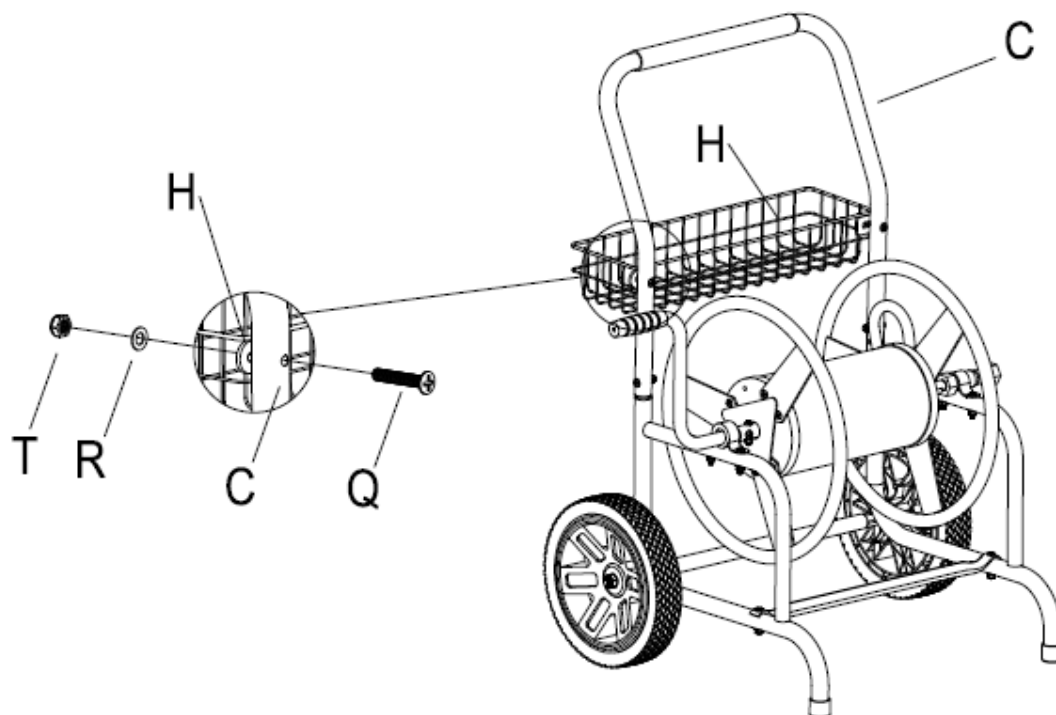

Figure 10
Step 10: Attach the Accessory Basket (H) to the Upper Frame Handle (C) using Bolts (Q) and Washers (R) and Lock Nuts (T). See Figure 10.